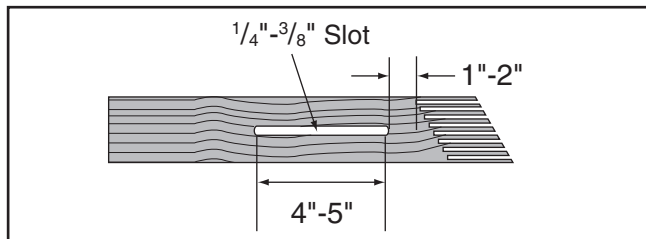

Figure 75. Slot routed in featherboard.
4. Rout a $\frac{1}{4}$ "- $\frac{3}{8}$ " wide slot 4"-5" long in workpiece and 1"-2" from short end of featherboard (see **Figure 75**).